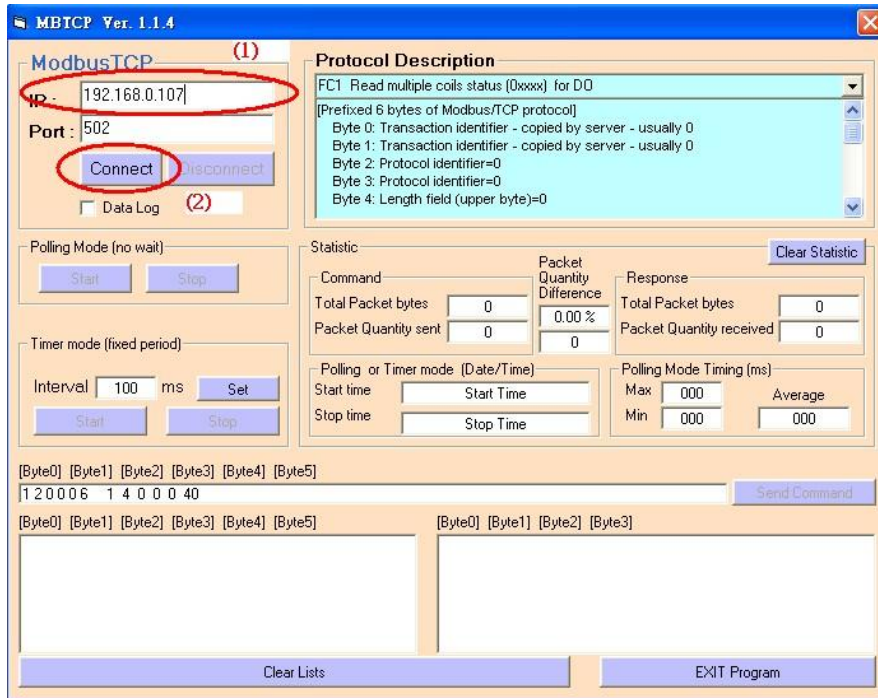

Figure 62 MBTCP Utility
-- Start the test utility “MBTCP” (*Figure 62*) on the PC.